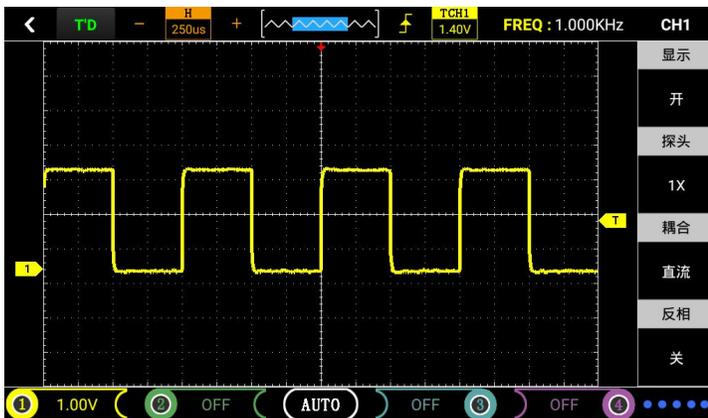
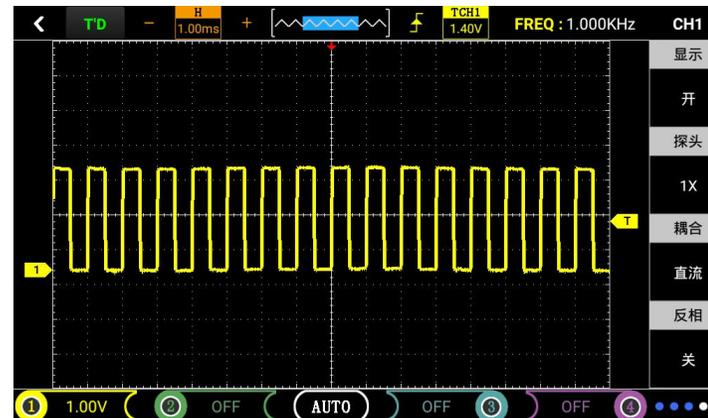

Figure 3-8
Figure 3-9
- **Horizontal Scale:** To adjust the time base, change the scale between levels by tapping the “-” or “+” key next to the time base icon at the top left of the screen to zoom in or out. If you want to stop waveform acquisition, click the "AUTO" button at the top left of the screen to achieve or directly press the "F1" key to achieve. As shown in Figure 3-8 and Figure3-9.